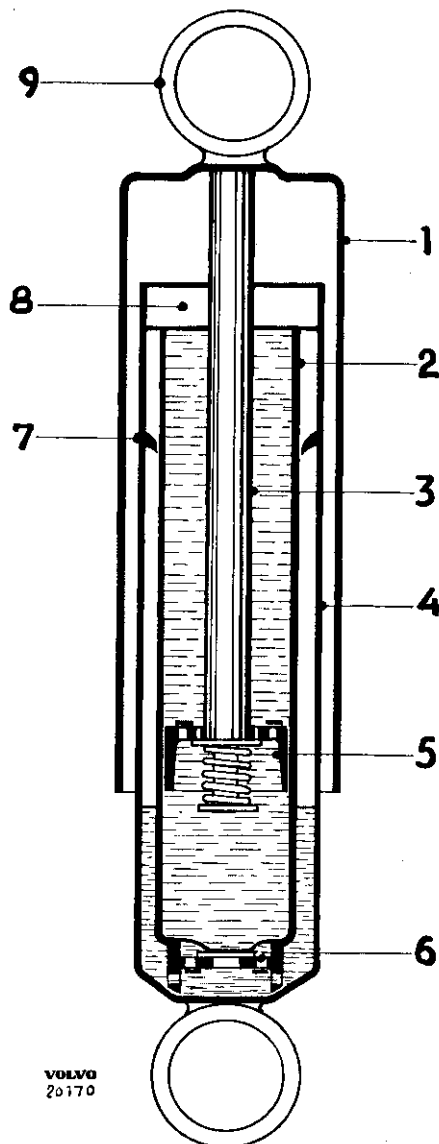
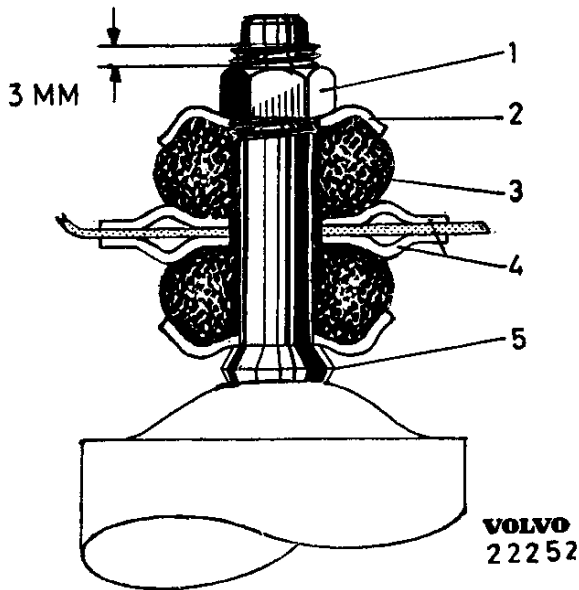

Fig. 5. Schematic view of shock absorber.
Fig. 6. Upper, rear shock absorber attachment.
The design of the shock absorbers is shown in Fig. 5. The outer cylinder (1) acts only as a guard against dust and dirt. The two remaining cylinders (2 and 4) are concentrically installed, with one pushed entirely in the other. The operating cylinder (2), or pressure tube, is fitted with a valve (6) at its lower end. A plunger (5) with valve operated channels slides in the pressure tube (see Fig. 6). The plunger is attached to a plunger rod (3), which is formed into an eye at its other end for attachment to the body. At the other end of the shock absorber a similar eye is attached to the cylinder (4). The space between the cylinders (2 and 4) serves as a reservoir and is only partially filled with fluid. The pressure tube is completely filled with fluid on both sides of the plunger (5). The cap (8) functions as a plunger seal and guide. The ring (7) is designed to prevent splash in the fluid.
cover uppermost and work the unit up and down four or five complete strokes or until one feels the shock absorber resisting in both directions. Fit in the reverse order to that used when removing. The shock absorber attachment are assembled as shown in Figs. 6—9.